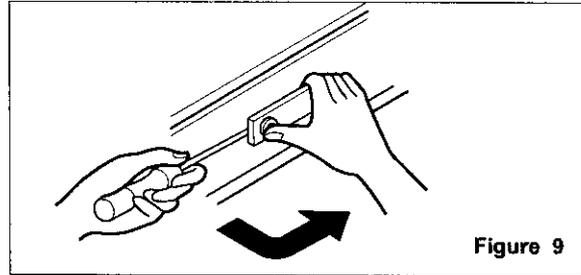

Figure 9
1. To remove the door switch, pull out it with a slotted type driver as shown in (figure 9.)